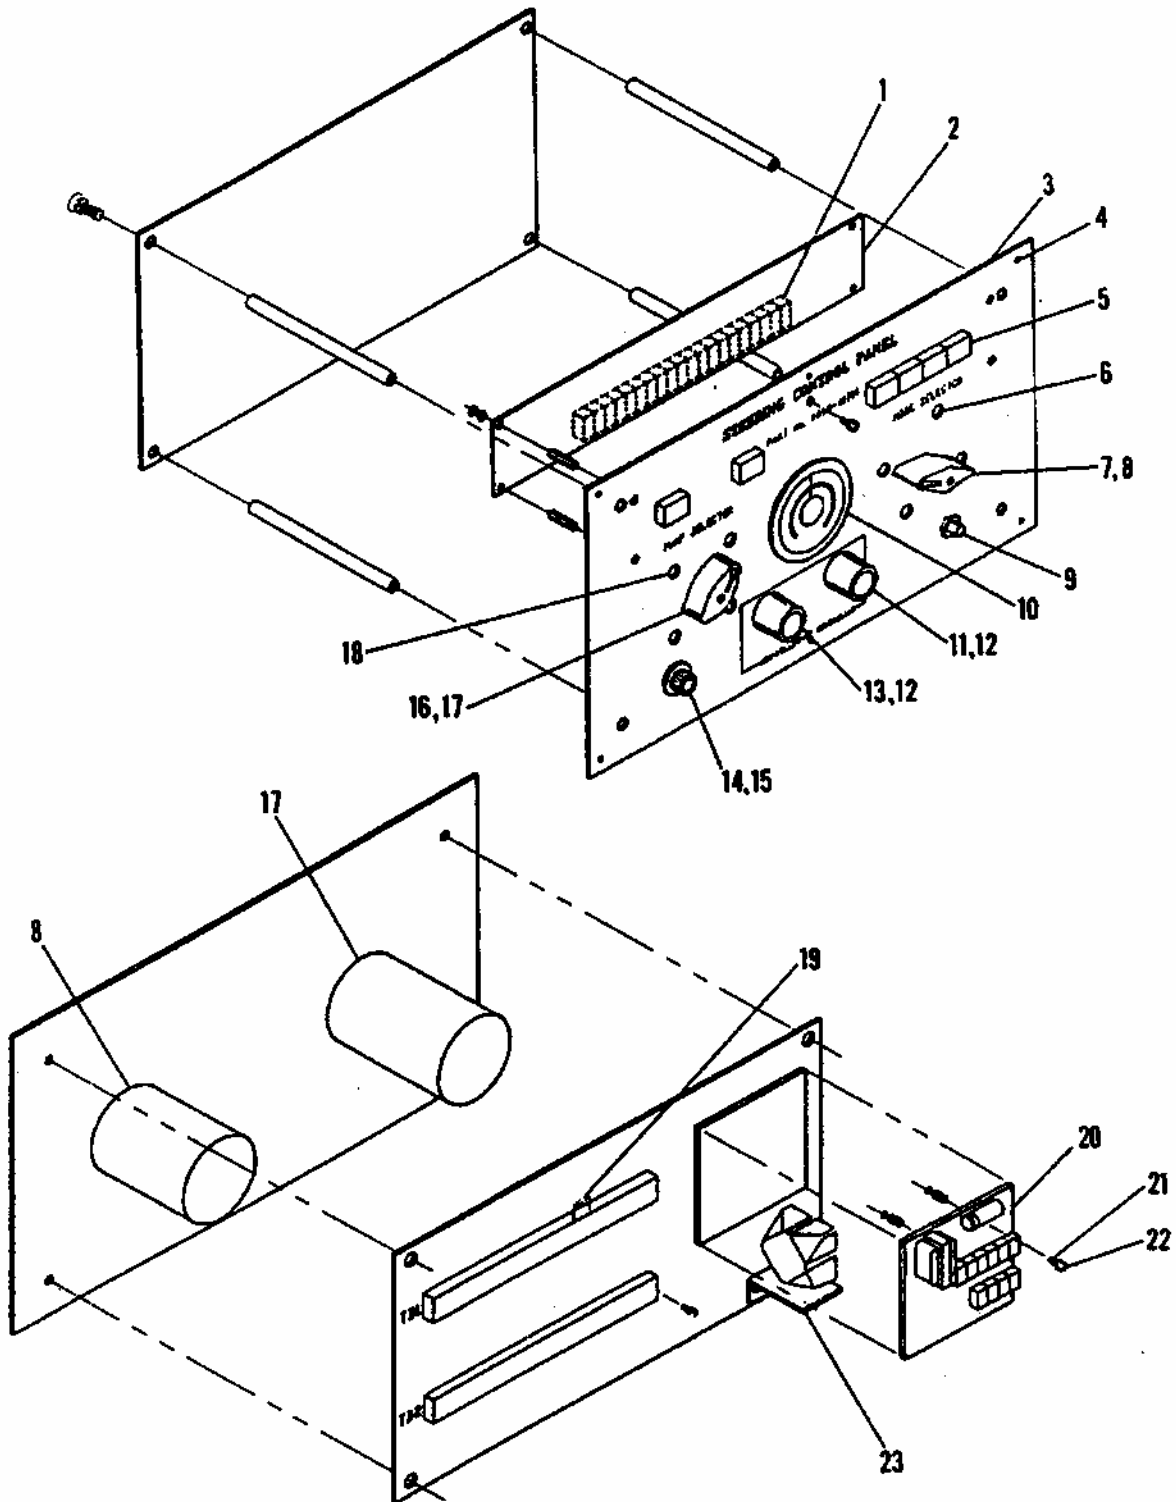

Figure 3-102.1 Steering Control Panel.
- a. Connect electrical leads to the following voltage regulator (38), variable resistor (19), rotary switches (16,26), push switches (7,9, 13, and 23), and rudder order indicator (3).
- c. Install steering control panel assembly (1) in pilothouse control console.
- d. Secure with eight round head screws (2).
3.116.1. Replace/Repair Steering Control Panel (Figure 3-102.1)